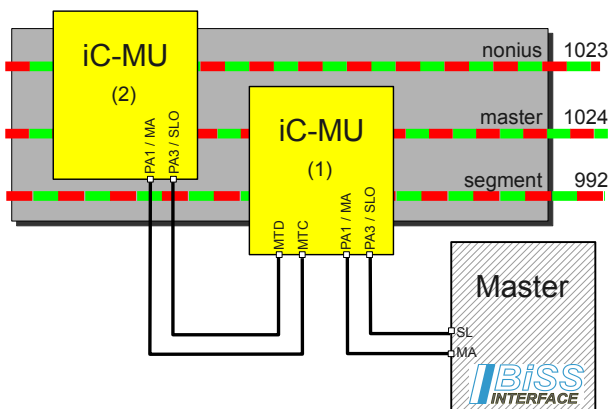

Figure 38: 3-track nonius with 2 iC-MU
The construction of such a system is shown as an example in Figure 38 and the configuration in Table 62.
Table 62: Configuration example for the 3-track nonius system of Fig.38
To facilitate the initial configuration of an iC-MU as a SSI multiturn device the command SWITCH can be used (see page 52). The singleturn iC-MU (1) in Figure 38 has to enable the direct communication to the multiturn sensor by setting GET\_MT to 1. The configuration of iC-MU (2) can take place using the BiSS protocol. After the configuration of the external multiturn MODEA\_NEW and RPL\_NEW are used